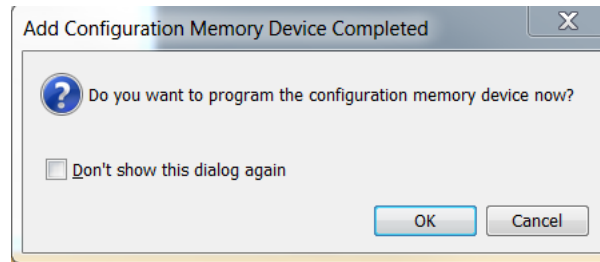

Figure A-10: Add Configuration Memory Device Completed
11. Click **OK** to add the firmware file for the memory (see Figure A-10).